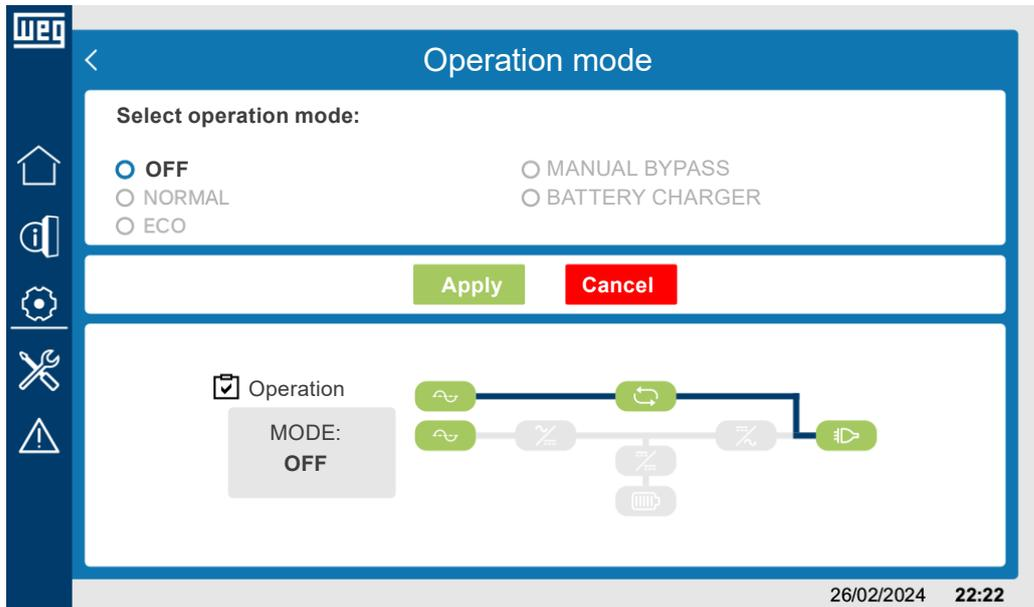

Figure 6.26: Synoptic diagram in OFF mode
- OFF mode: Figure 6.26 on page 6-20.